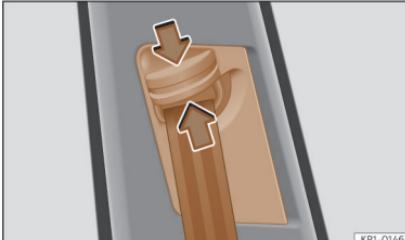

Fig. 24 Near the front seats: seat belt height regulator.
- Keep the guide device pressed down in the direction of the arrow >>> **Fig. 24.**